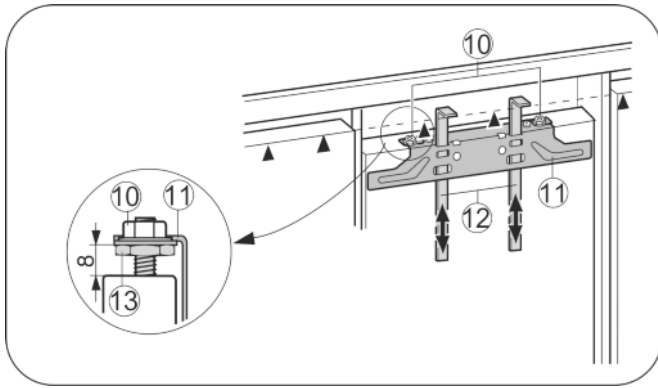

Fig. 27
- ▶ Raise the fitting aids Fig. 27 (12) to unit door height. Bottom stop edge of ▲the fitting aid = top edge of the unit door to be fitted.
- ▶ Unscrew the crosspiece Fig. 27 (11) by undoing the locknuts Fig. 27 (10).